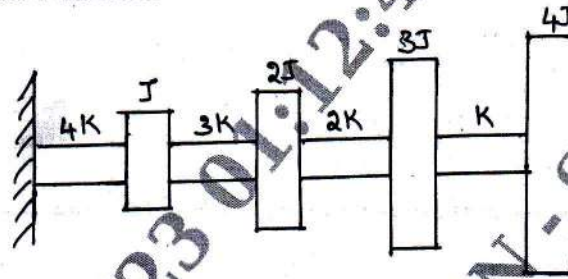

Fig Q10(a)
- 10 a. Determine the natural frequencies for the torsional vibration of a 4-DOF system shown in Fig Q10(a). Using Holzer's method.